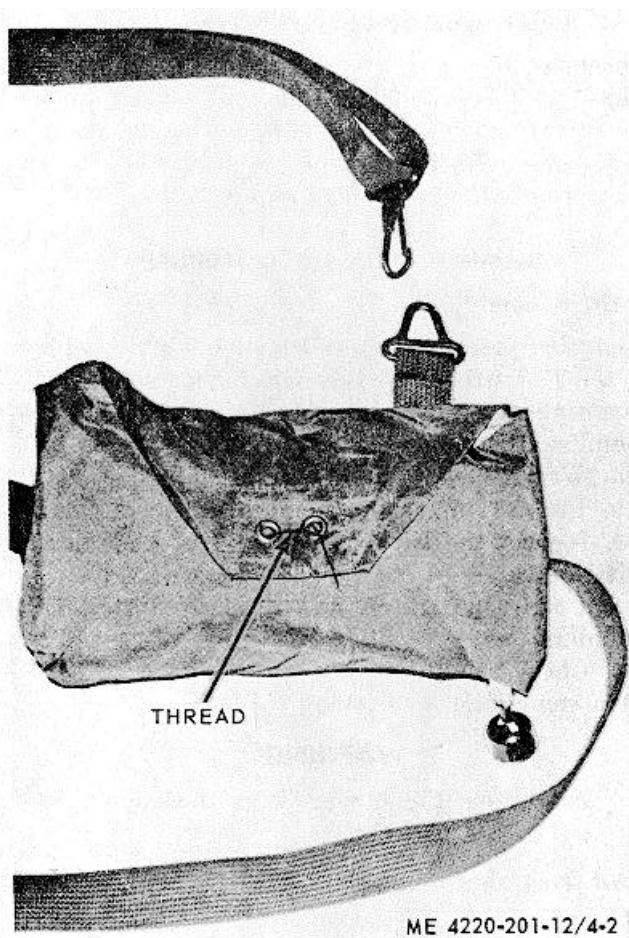

Figure 4-2. Container flaps secured with thread
(3) Secure the container flaps (fig. 4-2) with #3 cord, cotton thread, and tie the thread with a surgeon's knot and a locking knot.